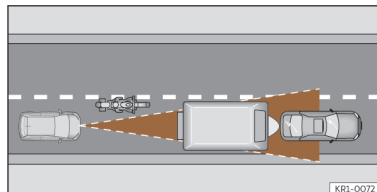

Fig. 137 Motorcyclist ahead out of range of the radar sensor.
- Vehicles that are not aligned while driving or that are outside the sensor's detection area, such as motorcycles >>> **Fig. 137**.